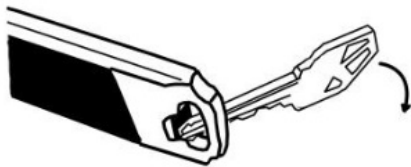

Figure 1
1. With a key or small screwdriver, push up on the black tab located at the bottom of the remote (fig.1 and slide the chrome trim off.